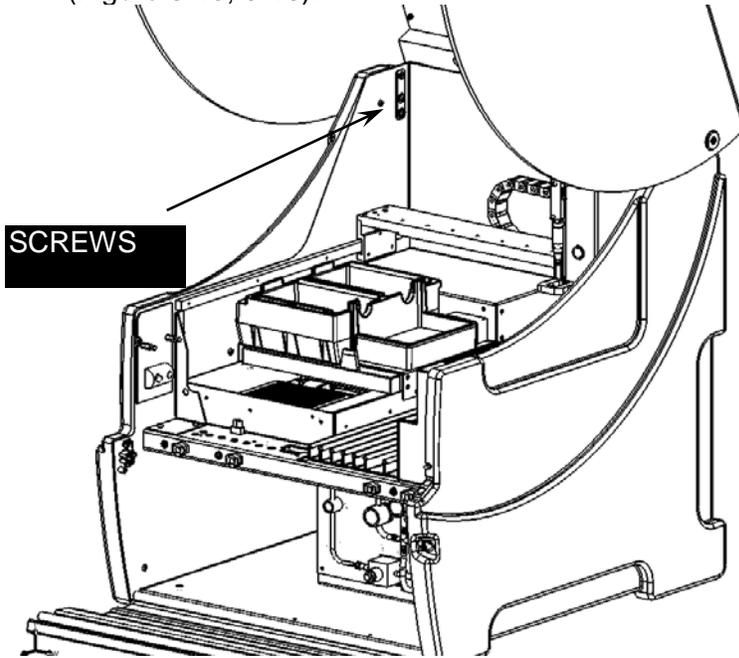

Figure 6-15: Cover Clamp Plates
2. Open the front Cover and loosen the four screws holding the Cover Clamp Plates (Figure 6-15, 6-16).